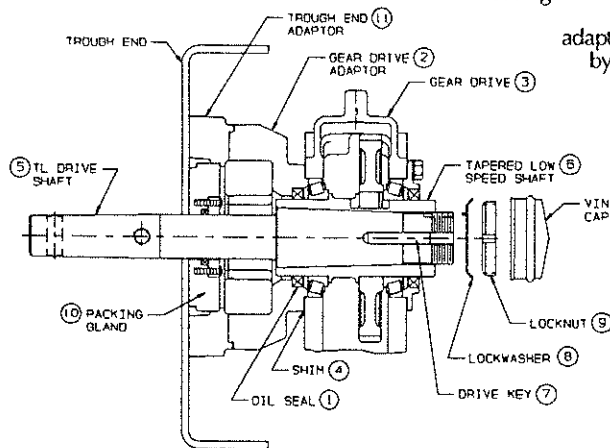

Figure 4 - TL Conversion (107 - 315)
After removing the tapered bushing, remove the screws from the low speed cap on the opposite side of the gear drive housing from the high speed shaft extension. Remove the shim gasket (4) from the back of the cap and apply it to the face of the gear drive housing. In addition to providing a seal, the shim gaskets establish the bearing preload and are therefore important to the operation of the unit. See Figure 4.
Before assembling the gear drive to the trough end, insert the packing gland assembly (10) into the trough end adaptor (11) with the anti-rotation lug aligned with the notch in the adaptor. See Figure 4.